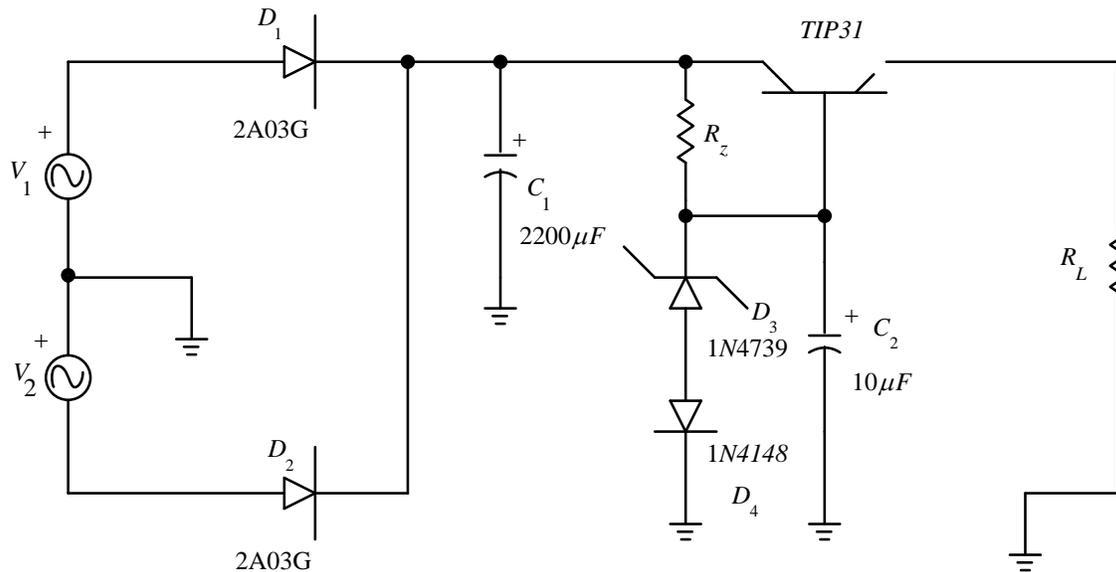

Fig. 1. A 9.1 volt power supply with series-pass regulator.
For the purposes of this experiment, we will work with the full-wave rectifier circuit we studied in Experiment 2. We will design a series-pass regulator to provide approximately 9.1 VDC @ 400mA. The desired circuit is shown in Fig. 1. Since more load current is required, we will use two 2A03G (2 Amp) diodes. The forward diode drop will be approximately the same as V_F was for the 1N4002 diode.
Referring to Fig. 1, the circuit works as follows. Zener diode D3 in this circuit has a Zener voltage that is nominally 9.1 volts. The series diode D4 is used for two reasons:
The two voltage sources in Fig. 1 represent the two sides of the 24 VAC center-tapped transformer we have in the lab. Each voltage source will, hence, have a peak voltage of about 17 volts when delivering rated load current.
1. Begin constructing the circuit of Fig. 1 using parts in the laboratory. To simulate the 400 mA full load, use a power resistor that will draw at least this amount of current.